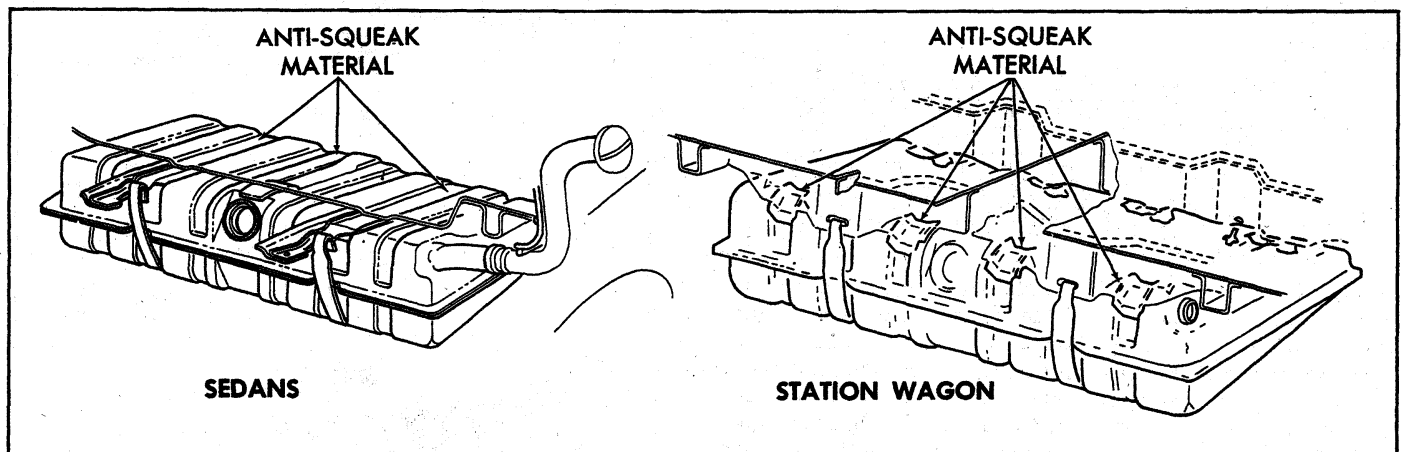

Fig. 15—Chevy II Fuel Tanks
All Chevy II Models have 16 gallon capacity (approx.) fuel tanks mounted between the frame rails to the rear of the rear axle (fig. 15). The fuel tanks are basically the same for the passenger car and two-seat, six passenger station wagon models. The tanks are held in place by two metal straps attached individually to the underbody at each end. The straps hinge at the forward end and secure the tank at the rear with an adjustable bolt and nut assembly. The tank rests against the rear compartment pan reinforcement. The two-seat station wagon gas tank is secured to the contour of forward and rear underbody
3. Disconnect the filler neck inlet hose and the vent connection (fig. 15).